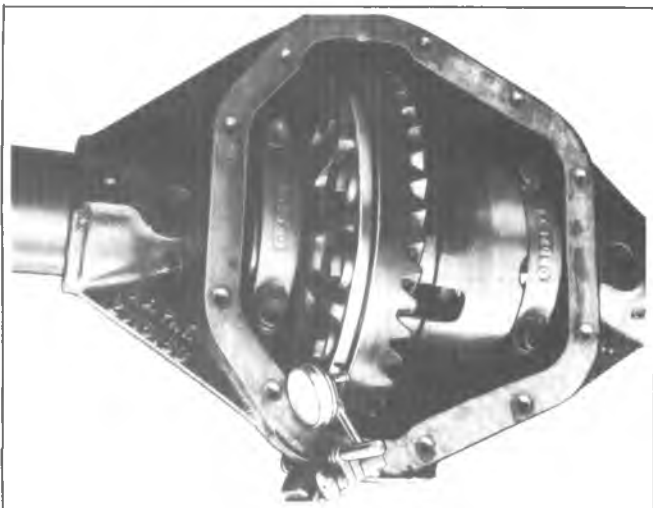

Fig. 19F—Checking Runout
7. Install dial indicator on carrier with indicator button contacting back of ring gear, as in figure 19F. Rotate differential case and check for runout. If runout is greater than .002", the assembly should be removed and the ring gear removed from the case. Again install differential case and check runout at differential case flange.
2. Install dial indicator on carrier with indicator button contacting back of ring gear, as in figure 19F.